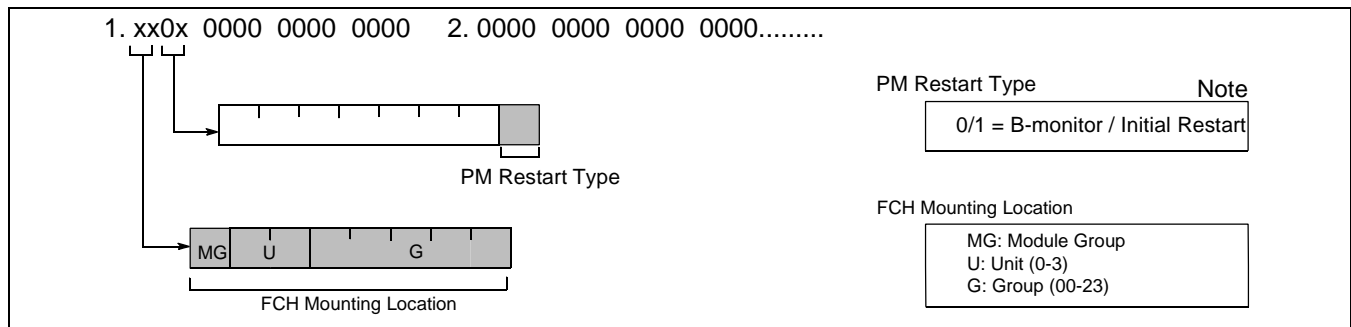

Figure 7-7 3-E PM Lockup Failure (Temporary)
The CPU sends diagnosis data at periodic intervals to the Port Microprocessor (PM) on the FCH (PA-FCHA) cards to monitor the PM. If the CPU cannot receive the return data within a predetermined time, the system displays the data in Figure 7-7. When the failure is detected more than 15 times per hour, the failure is judged as permanent. Otherwise, 3-E “PM Lockup Failure (Temporary)” is displayed.